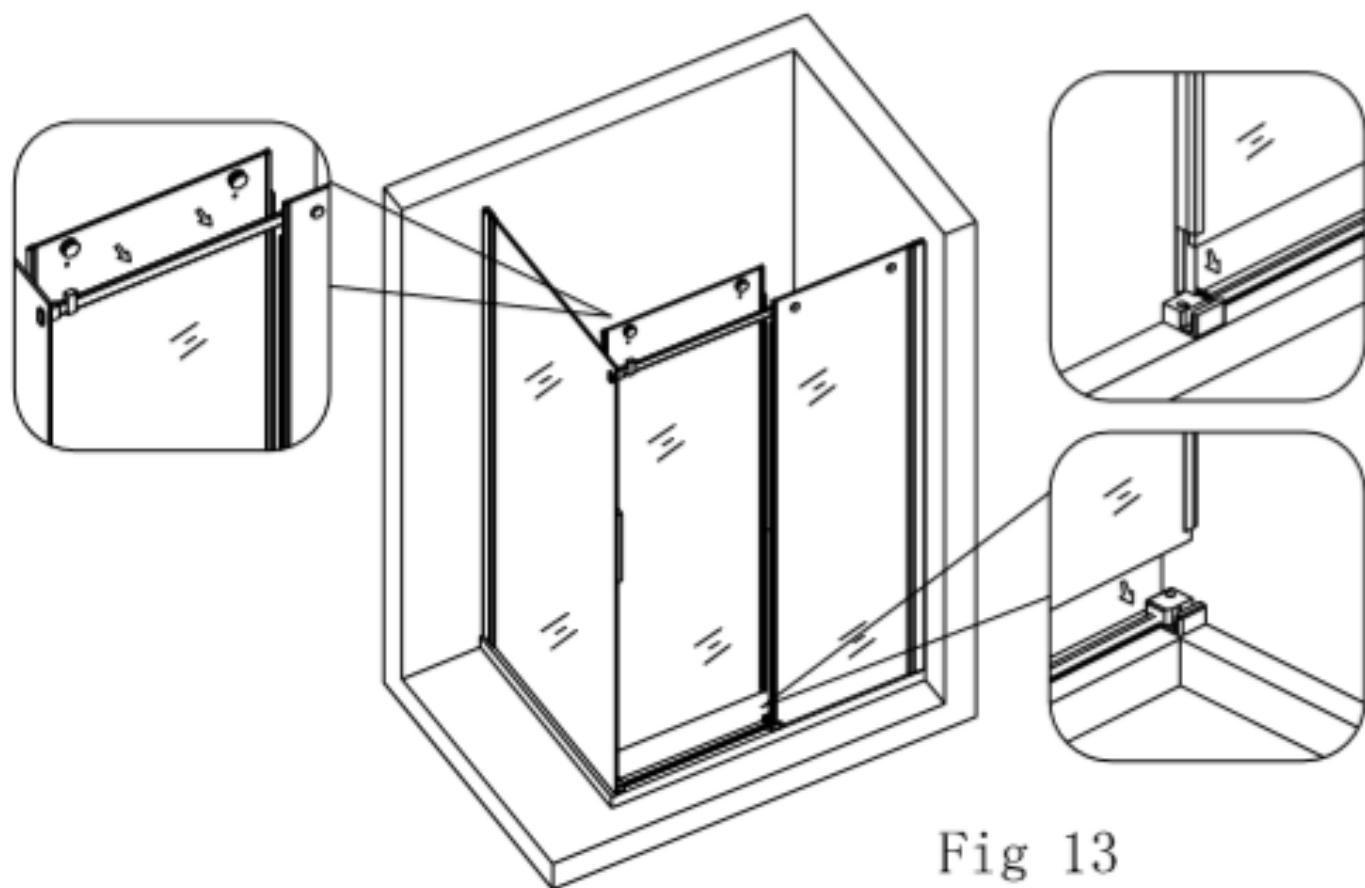

Fig 13
12. Hang the wheels of glass door on the support bar, and put the bottom of glass door into the pot holes of side navigational block and middle navigational block. (Fig 13)